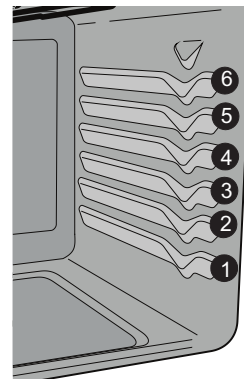

Figure 21: Rack positions for visible bake and hidden bake elements
- For best results when baking cakes using two oven racks, place racks in positions 3 and 5 (See Figure 21) and use the Quick Bake feature.